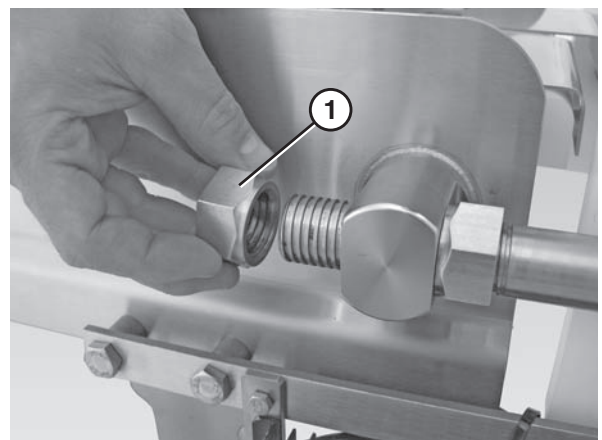

Figure 87
3. Remove the back nuts (**Figure 87, item 1**) on both discharge nose bar shafts.